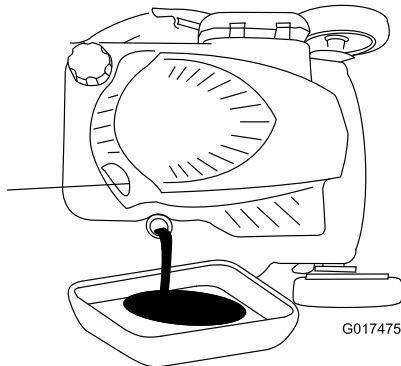

Figure 34
5. Tip the mower onto its side, with the dipstick down, to drain the used oil out through the oil fill tube (Figure 34).